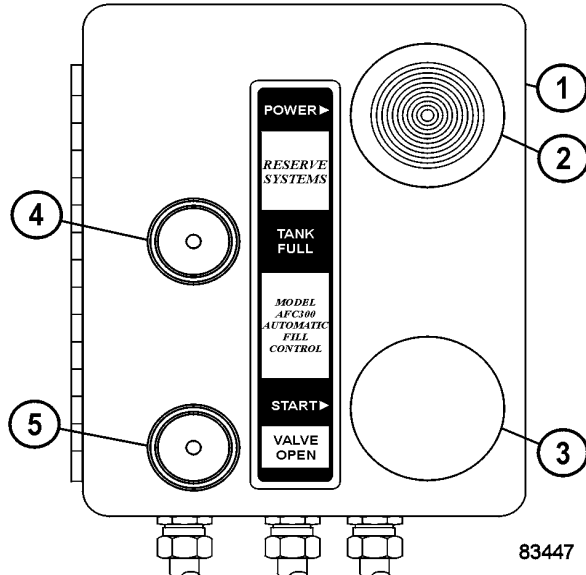

FIGURE 40-3. CONTROL PANEL
2. Pull out on switch (2, Figure 40-3) to turn the system on.
3. Push start switch (3). The VALVE OPEN light (5) should illuminate and the filling process will begin.
4. When tank is full, the VALVE OPEN light will turn off and FULL light (4) will illuminate.
6. Press and hold start switch (3) for a couple of seconds.
8. Push switch (2) in to turn system power OFF.